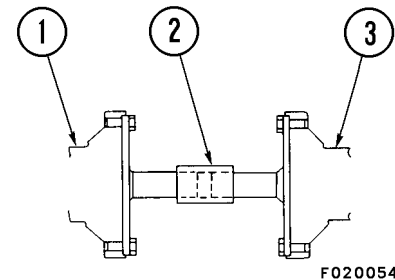

FIGURE 2-35. SHAFT ALIGNMENT
2. While turning coupling at torque converter end, carry out centering so that tool (2, Figure 2-35 and 2-36) rotates smoothly on both shafts. Move the torque converter/transmission assembly end when centering.